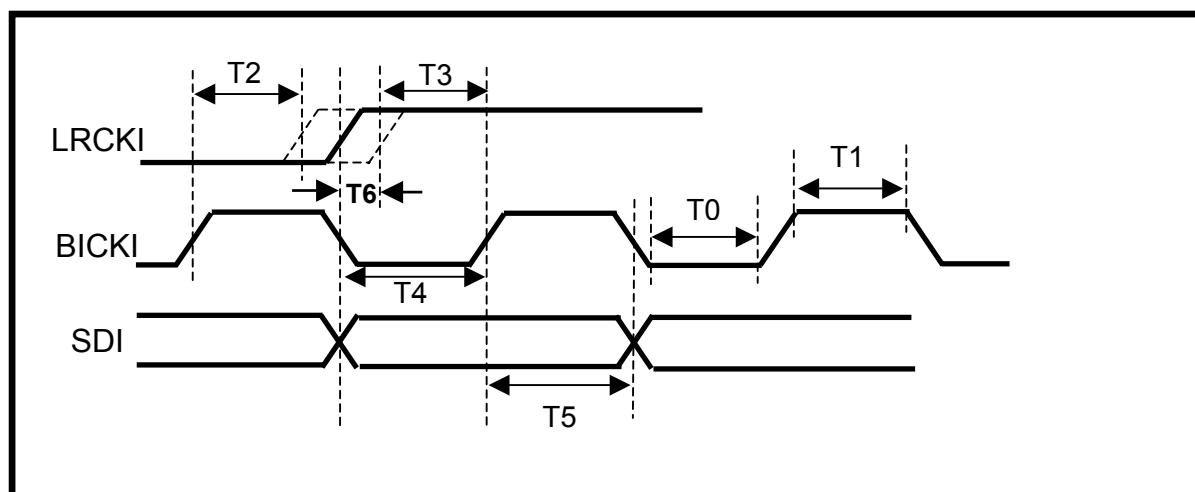

Figure 1: Input switching characteristics
3.0 I²S Input switching characteristics (10pF load, Fsm = 32 to 96kHz) Refer to Figure 1.
The sample rate converter re-samples the selected input data source in order to send to the DSP an audio stream with a fixed frequency of 48 KHz. Figure 1 shows the basic architecture.